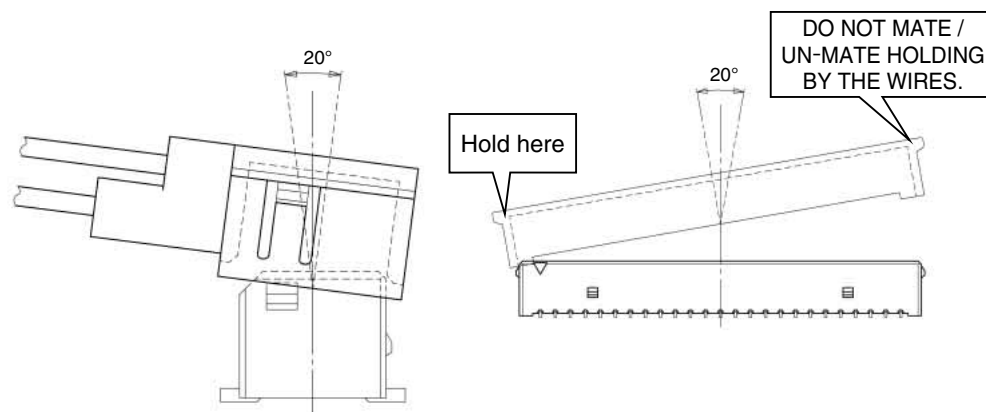

Fig. 2. Mating / Un-mating
- * Hold the socket at both ends (as illustrated on Fig.2) when mating or un-mating. The mating/un-mating of the connectors must be within the indicated angle of 20° on both axis.